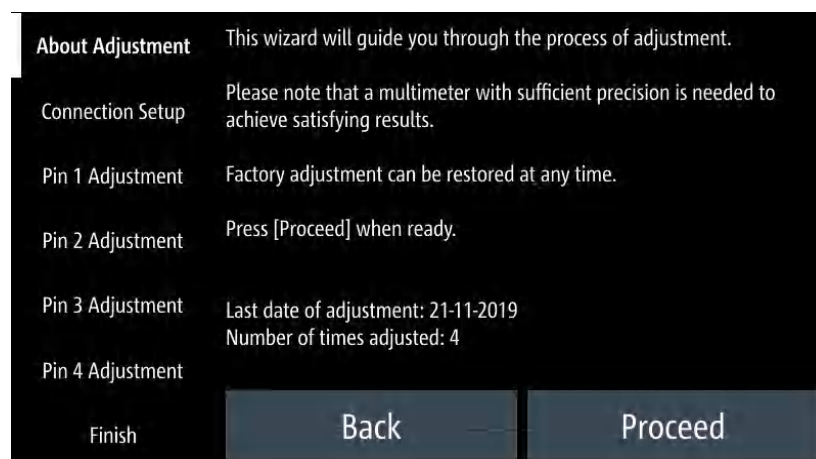

Figure 6-44: Analog in adjustment wizard
- Follow the on-screen instructions displayed in the Figure 6-44.